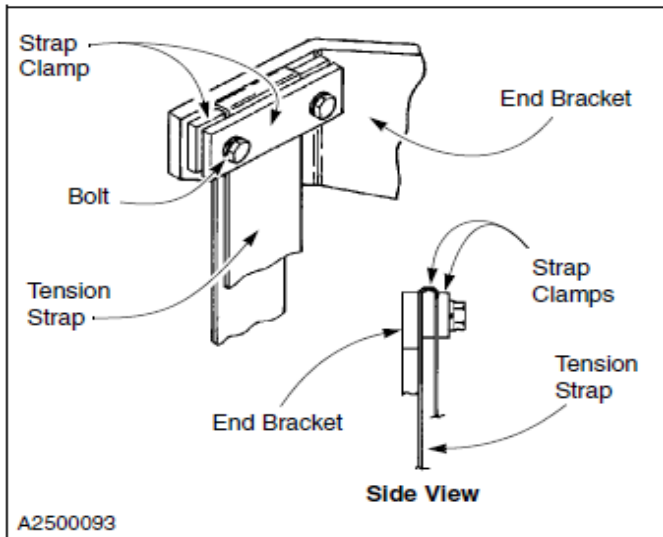

Figure 73
3. Loosen the two bolts to release the blue tension strap from the strap clamp. The clamp is at the end of the end bracket. (See Figure 73)